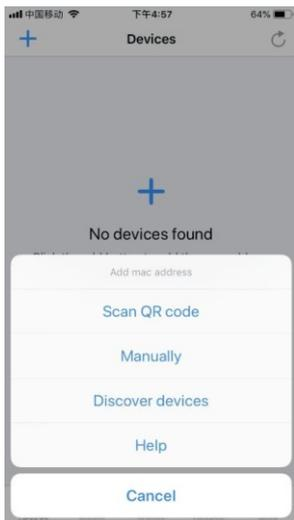
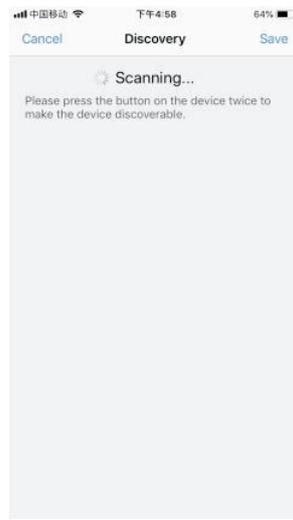

Figure 4
Figure 5
4. Run Easythings AAP, tap add button “ + ” on the APP to add device, then choose “Discover devices” to discover device, then short press the “K2” button on the curtain motor controller twice (or reset power of the controller twice continuously) to set the device into pairing to APP mode. (As shown in Figure 3 & Figure 4 & Figure 5)